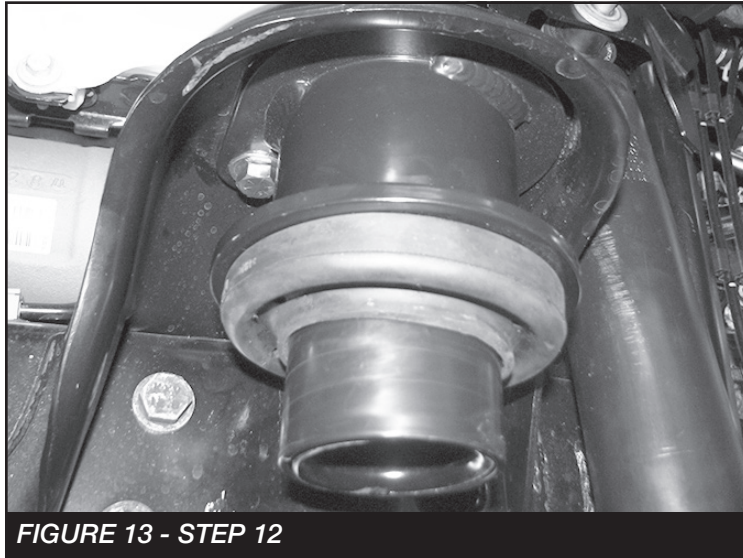

FIGURE 13 - STEP 12
11. Install FT50400BK (Front Coil Spacer) using the supplied 7/16 x 1-1/4" bolts, washers and nuts using the factory hole in the coil bucket. Torque to 83 ft-lbs. Install the rubber isolator onto the new Fabtech coil spacer. Re-install the factory foam bumpstop on both sides. Repeat on passenger side **SEE FIGURE 13**